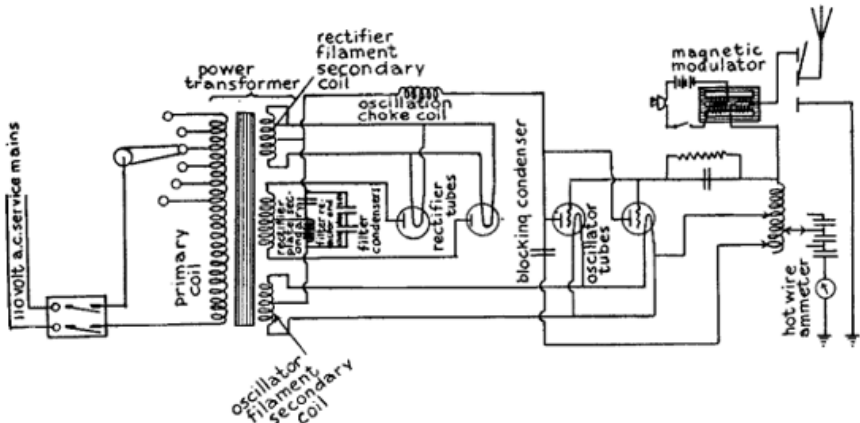

FIG. 93.—100 to 200 Mile Wireless Telephone Transmitter.
Connecting Up the Apparatus.--The wiring diagram in Fig. 93 shows how the various pieces of apparatus for this telephone transmitter are connected up. You will observe: (1) that the terminals of the power transformer secondary coil which develops 10 volts are connected to the filaments of the oscillator tubes; (2) that the terminals of the other secondary coil which develops 10 volts are connected with the filaments of the rectifier tubes; (3) that the terminals of the third secondary coil which develops 550 volts are connected with the plates of the rectifier tubes; (4) that the pair of filter condensers are connected in parallel and these are connected to the mid-taps of the two filament secondary coils; (5) that the reactance coil and the third
A 100 to 200 Mile Wireless Telephone Transmitting Set--With 110 Volt Alternating Current.--This telephone transmitter is built up of exactly the same pieces of apparatus and connected up in precisely the same way as the one just described and shown in Fig. 93.
The apparatus is wired up as shown in Fig. 93.
The Operation of Microphone Modulators--The Induction Coil.--This device is really a miniature transformer, see *A* in *Fig. 86*, and its purpose is to change the 6 volt direct current that flows through the microphone into 100 volts alternating current; in turn, this is impressed on the oscillations that are surging in either (1) the grid circuit as shown at *A* in *Fig. 89*, and in *Fig. 90*, (2) the aerial wire system, as shown at *B* in *Fig. 89* and *Fig. 93*. When the current from the battery flows through the primary coil it magnetizes the soft iron core and as the microphone varies the strength of the current the high voltage alternating currents set up in the secondary coil of the induction coil are likewise varied, when they are impressed upon and modulate the oscillating currents.
The Magnetic Modulator.--This piece of apparatus is also called a *magnetic amplifier*. The iron core is formed of very thin plates, or *laminations* as they are called, and this permits high-frequency oscillations to surge in a coil wound on it. In this transformer, see A in Fig. 88, the current flowing through the microphone varies the magnetic permeability of the soft iron core by the magnetic saturation of the latter. Since the microphone current is absolutely distinct from the oscillating currents surging through the coil of the transformer a very small direct current flowing through a coil on the latter will vary or modulate very large oscillating currents surging through the former. It is shown connected in the aerial wire system at A in Fig. 88, and in Fig. 93.
before passing into the oscillator tube to be converted into oscillations. Further so that the oscillations will be sustained, two oscillator tubes must be used, and, finally, in order that the oscillations may not vary in amplitude the alternating current must be first changed into direct current by a pair of rectifier vacuum tubes, as shown in *Fig. 93*. When this is done the plates will be positively charged alternately with every reversal of the current in which case there will be no break in the continuity of the oscillations set up and therefore in the waves that are sent out.